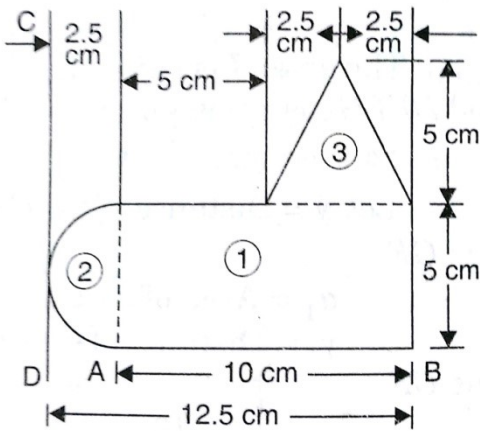

Figure 3.1
1. Locate the centroid of the of a plane uniform lamina shown in Figure 3.1.